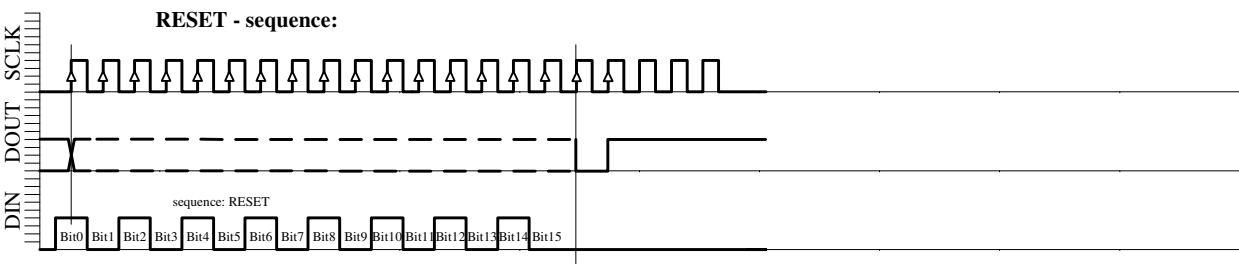

Fig. 6e: RESET sequence (21-Bit).
- RESET sequence (Figure 6e)
The RESET sequence is special as its unique pattern is recognised by the module in any state. By consequence it can be used to restart if synchronisation between the microcontroller and the MS5540C has been lost. This sequence is 21-Bit long. The DOUT signal might change during that sequence (see Fig. 6e). It is recommended to send the RESET sequence before first CONVERSION sequence to avoid hanging up the protocol permanently in case of electrical interference.